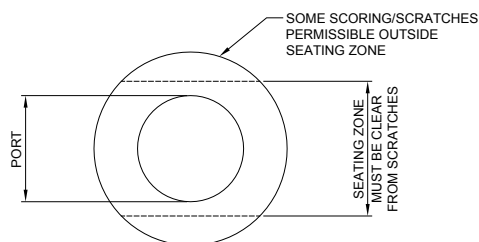

Fig. 4
- 7.11 Inspect the ball which must have no scratches or scoring, other than minor signs of rubbing, around its seating periphery (fig. 4). If the ball does not pass inspection it should be replaced.